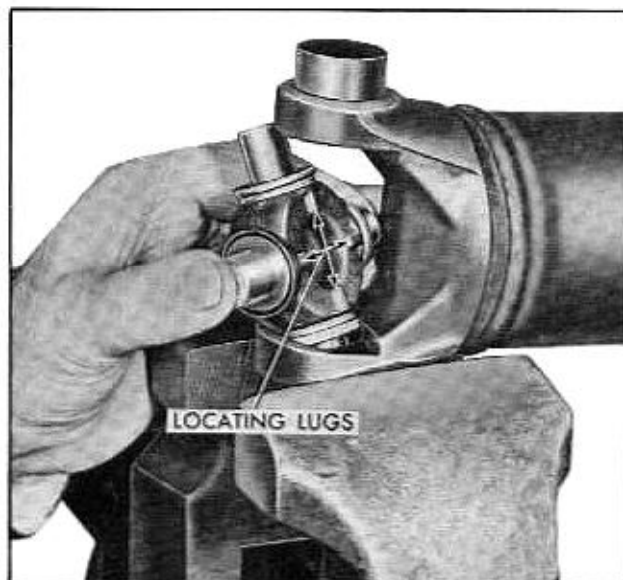

Fig. 4-52 Correct Installation of Journal in Yoke
b. Position journal, with dust shields installed, between arms of yoke and place journal in partially installed bearing. **NOTE:** Journal assembly must be installed so locating lugs are facing toward propeller shaft (Fig. 4-52).